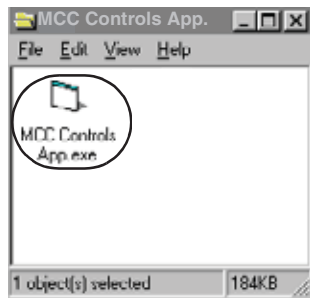

FIGURE 25
2. Click on **MCC Controls App.exe** icon to launch program (see Figure 25).